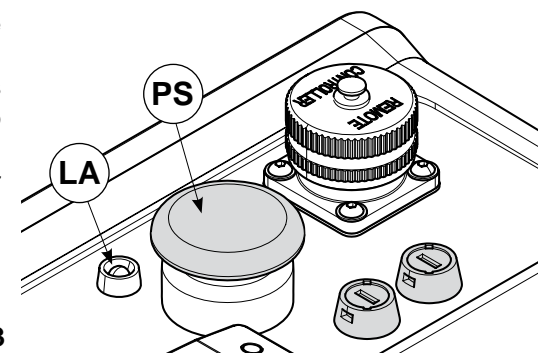

FIG. 3
- If required, by pressing the mechanical pressure release button (PS) (see Fig.3) on the pump, the oil will return to the reservoir independent of the status of the external power supply.
The pump is equipped with a self-diagnostic system; the condition of yellow LED (LA) (Fig 3) indicates malfunction **with subsequent interruption to pumping**.
- STEADY YELLOW LED indicates the intervention of the thermal protection inside the electric motor, usually due to an intensive and prolonged use of the pump. Allow the motor to cool and to restore the pump to operation, switch off and on again with switch (IG).